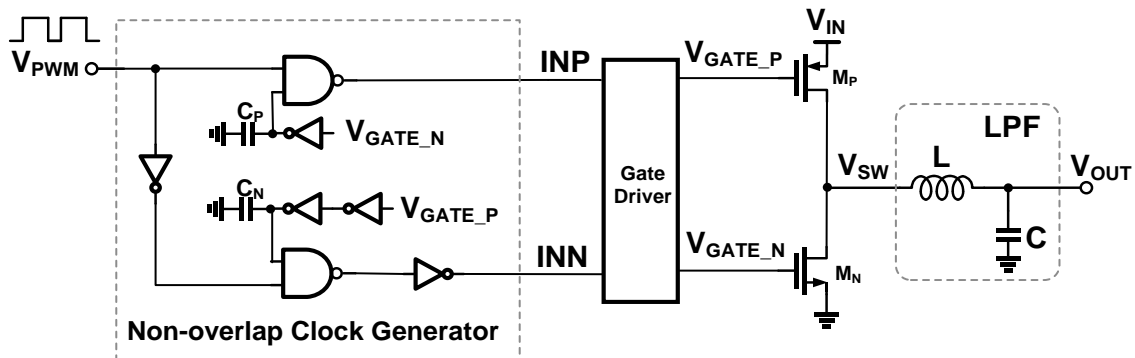

Figure 2-15 Power stage and LPF
1. For the power stage shown in Figure 2-15,